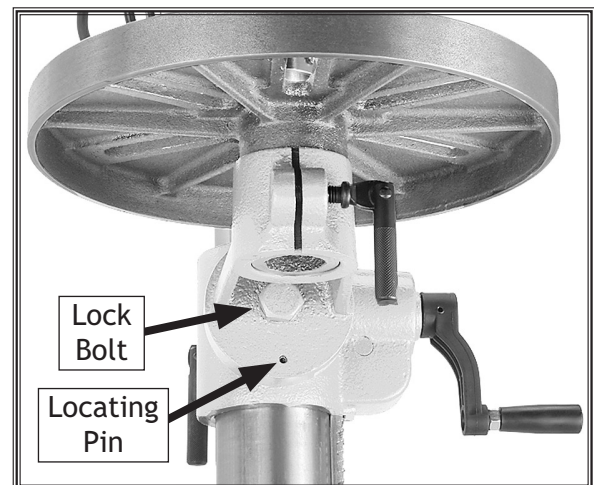

Figure 23. Table adjustment controls.
2. Use a 3mm hex wrench to back out the locating pin from the hole (**Figure 23**) just enough so it allows the table to tilt.